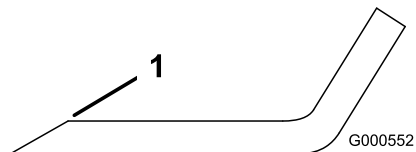

Figure 101
1. Use a file to sharpen the cutting edge at both ends of the blade (Figure 101).